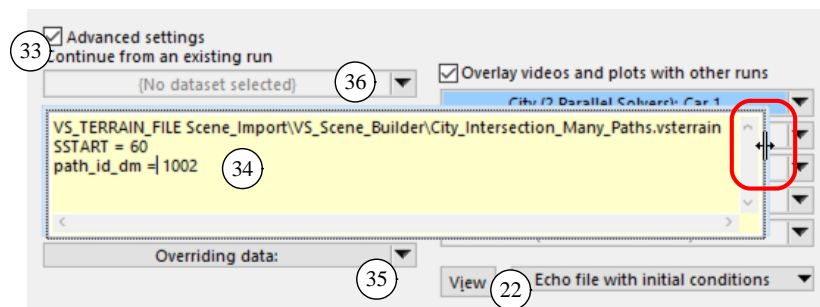

Figure 25. Use a splitter control to widen the miscellaneous yellow field.
(33) **Advanced settings** checkbox. This checkbox replaces the current vehicle graphic with three controls (34), (35), and (36) (Figure 18, Figure 25). This must be checked in order to override settings for quick studies or diagnoses, or to continue a run.
This field is also a convenient place to locate VS Commands to define simple model changes, such as creating a new output variable. See *VS Commands Manual* for more information about this capability. In case there are VS Commands that are too long to view, you can use the edge splitter controls to make the field wider and taller (Figure 25).